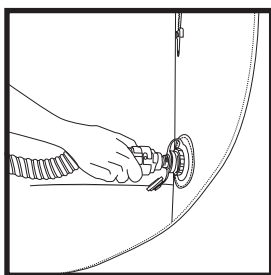

Fig. 2
4. Use the pump to inflate the product until you feel it is completely taut (Fig. 2).